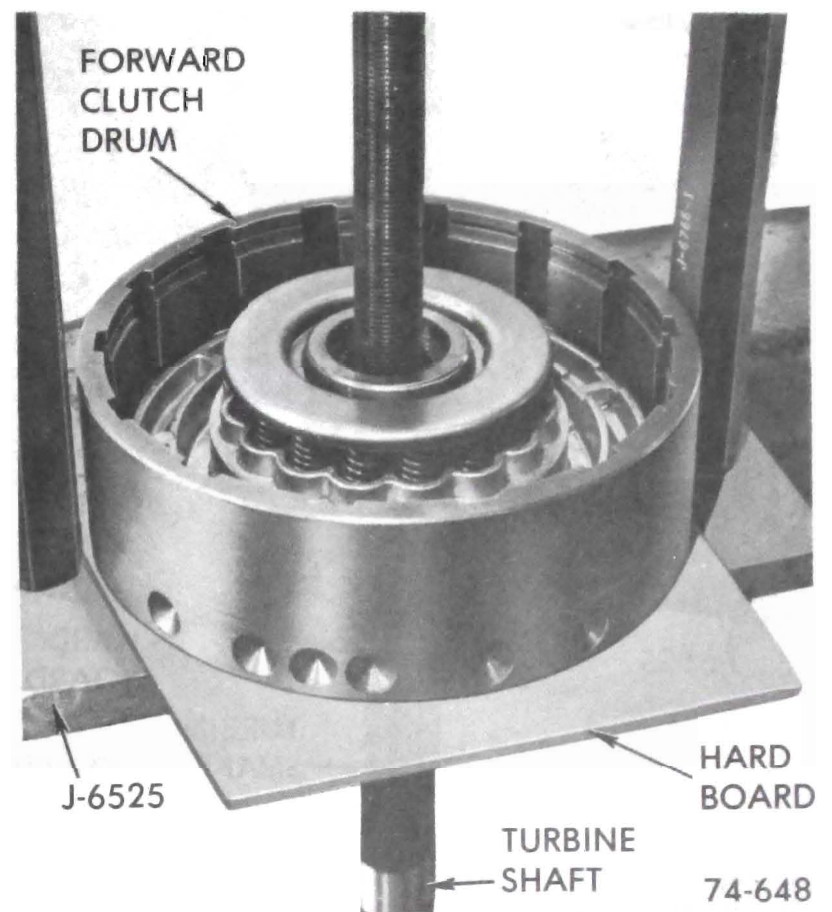

Figure 76-179
5. If necessary remove turbine shaft. See Figure 76-179.
If turbine shaft was not removed, install retainer as shown in Figure 76-179.